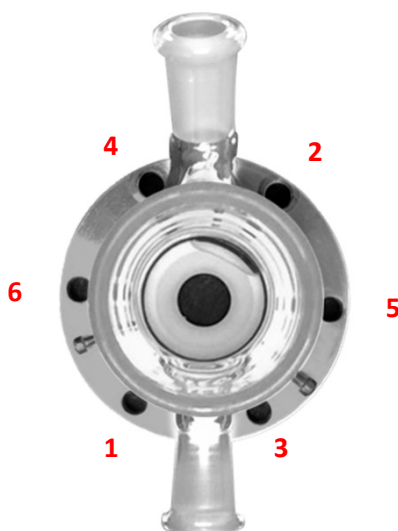

Figure 7. Order in which to tighten screws.
4. Carefully thread the #8-32 screws through the clearance holes and into the VeeMAX III top plate, but do not tighten them completely yet. *Note: depending on the orientation of the wafer, you will need either four or six screws to fasten the cell onto the top plate.* When all the screws are in place, grip the cell by the base and gently push down to compress the O-ring against the wafer. Working in a star pattern (see figure 7 in the **J1 Face-Angled Crystal Cell Assembly** section), tighten each screw $\frac{1}{4}$ to $\frac{1}{2}$ turn, working your way around the cell until each screw is snug but not tight against the body. Do not over tighten the screws – this risks breaking the wafer! The O-ring is very soft, so only moderate pressure is needed to maintain a good seal. If desired, test the seal by pipetting 1 or 2 mL of solution into the cell and observing for several minutes.